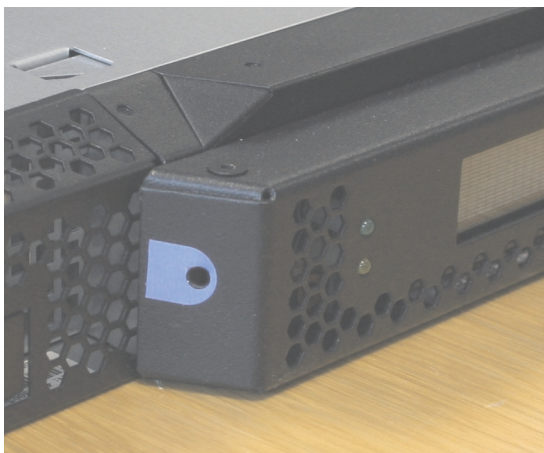

Figure 60. SAN Volume Controller 2145-8A4 service controller release button
3. Locate the recessed service controller release button on the left side of the controller, which is marked in blue, as shown in Figure 60.